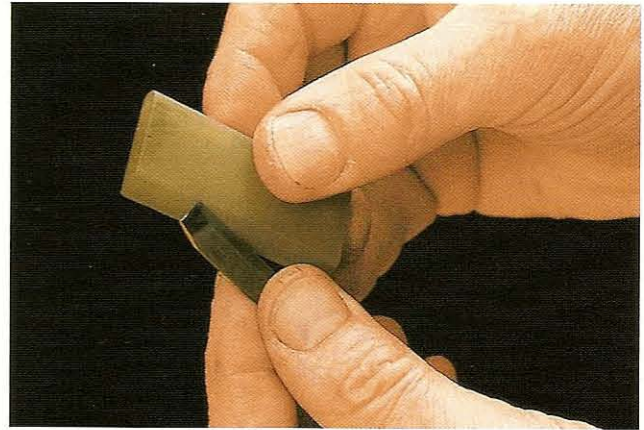

Fig 12.40 Using an angled slipstone to finish the inside of the V-tool
⑥ As the white line attenuates and disappears (Fig 12.34c), a point of light will be left at the apex, probably projecting a little with a hook (Fig 12.37), because the metal is thicker at the junction of the two sides. To remove the hook, turn the Arkansas stone side-on and lay the keel flat on the surface, with the blade at its proper 15–20° cutting angle. Rock the tool, like a gouge, from side to side and very carefully hone the keel until the spot of light has gone (Figs 12.38 and 12.39). Overworking the keel will cause the apex to dip back. Final spots of light can be removed with the slipstone (Fig 12.40).